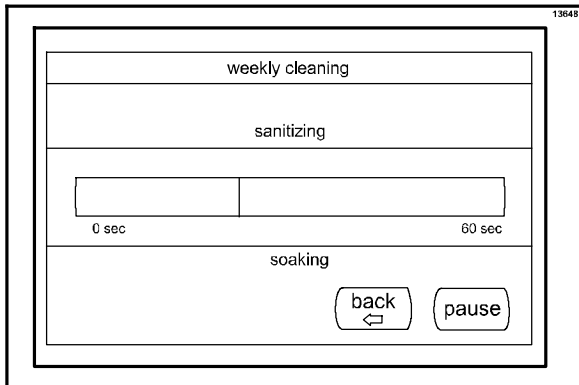

Figure 97
45. After the sanitizing solution stops pumping through the systems, it will soak for 60 seconds. (See Figure 97.)